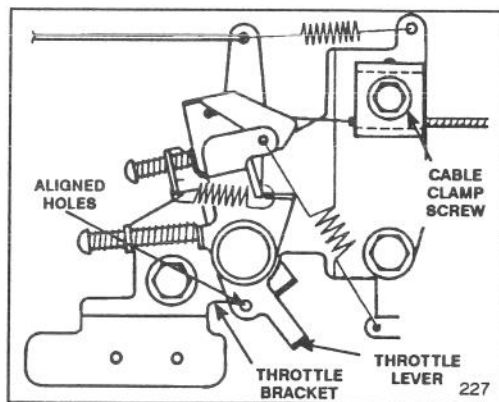

Figure 14
4. Loosen cable clamp screw until throttle cable slides (Fig. 14). Align holes in throttle lever and throttle bracket. Pull throttle cable slightly to remove any slack and tighten cable clamp screw to lock adjustment in place.